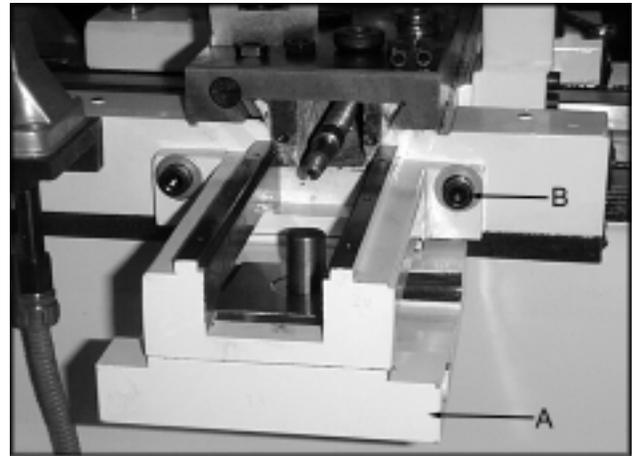

Fig. 2
10. Attach the main body (A, Fig. 2) to the carriage with two M10 x 30 hex socket cap screws, and two M10 flat washers (B, Fig. 2). Tighten the hex cap screws to hold the main body in place but loose enough to allow adjustment with a dead blow hammer, or rubber mallet.